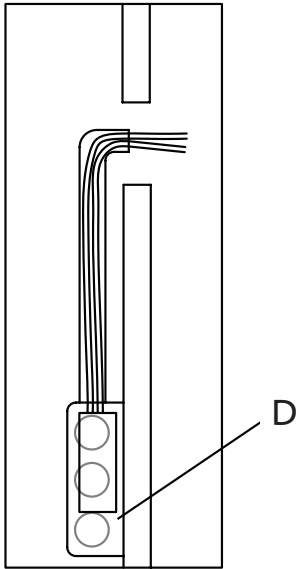
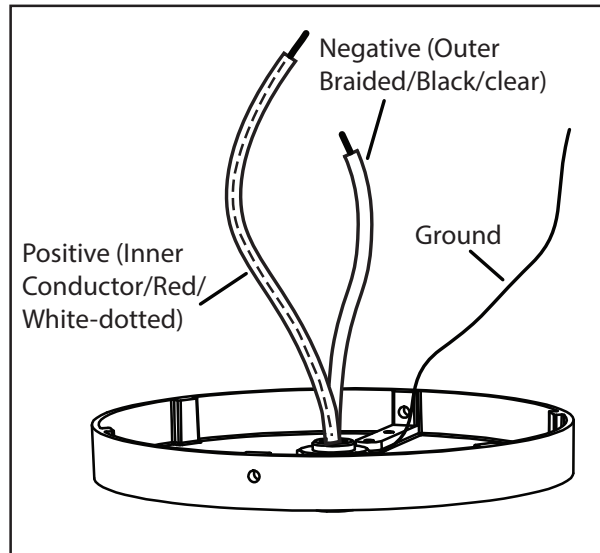
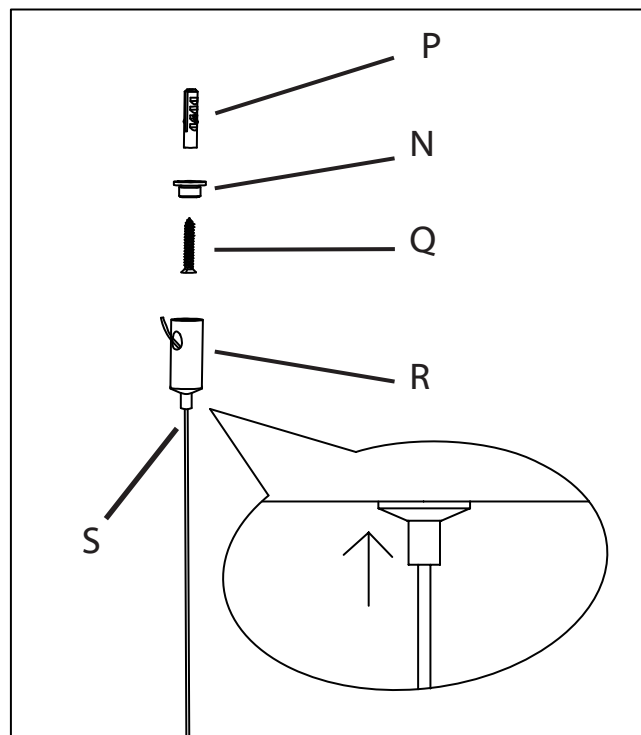

Fig. 1
Fig. 2
Fig. 3
1. Shut off power to the outlet box (A).
2. Screw the stem (B) into the bracket (C). Repeat for the other end.
3. The LED driver (D) must be installed in a remote and accessible location near the fixture in accordance with local electrical code (Fig. 1).
- c. Connect the LED driver's positive (+) output wire to the necessary length of red wire (not included) to reach the outlet box (A) location.
- d. Connect the LED driver's (D) negative (-) output wire to the necessary length of black wire (not included) to reach the outlet box (A) location.
4. Determine height at which the fixture (E) is to be hung, adjust power cords (F) to desired height and secure by tightening the set screws (G). Reserve extra cord in the canopies (H).
5. Attach the mounting plate (J) to the outlet box (A), secure with outlet box screws (K).
6. Make appropriate electrical connections using wire nuts (Fig. 2):
- c. Carefully place the connections in the outlet box (A).
7. Install the canopy (H) to the mounting plate (J) and secure with set screws (L) using the provided Allen key (M).
9. **For 2818-8 & 2818-8-J20 ONLY:** For the center support, install the mounting bracket (N) to the ceiling with anchor (P) and screw (Q), then screw the post (R) onto the mounting bracket. Insert the cable (S) into the post and adjust to the desired length: to shorten, push the cable up; to lengthen, push in the plunger while pulling down on the cable, release the plunger to lock. Cut off the excess cable where it exits the post. (Fig. 3)
10. Restore power to the outlet box (A).